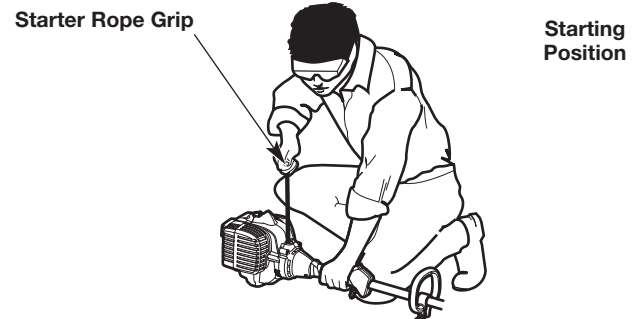

Fig. 11
WARNING: Avoid accidentally starting the unit. To avoid serious injury, the operator and the unit must be in a stable position when pulling the starter rope (Fig. 11).
3. Crouch in the starting position (Fig. 11).
4. Pull the starter rope with a controlled and steady motion until the unit starts (Fig. 11).